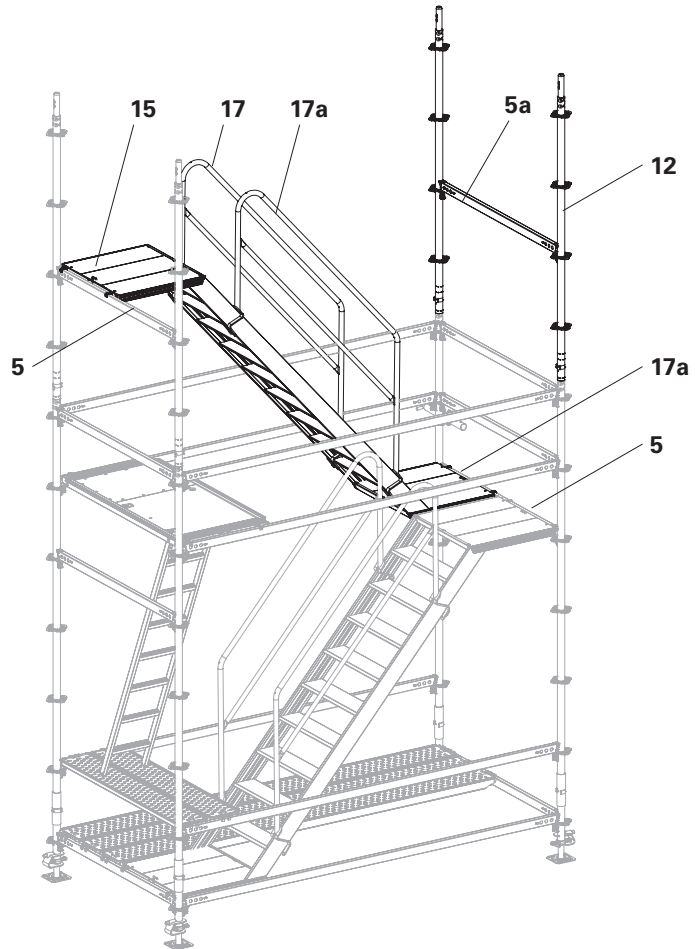

Fig. B4.02
4. Connect standards (**12**) with Horizontal Ledgers UH-2 150 (**5a**) at a height of 2 m. Secure the wedges. (Fig. B4.02)